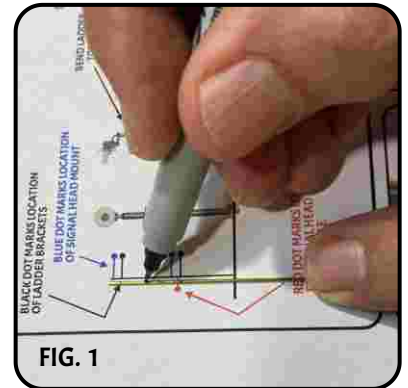

FIG. 1
LAY THE BRASS MAST/TUBE DIRECTLY ON THE SUPPLIED DRAWINGS FOR USE AS A TEMPLATE AND MARK THE LOCATIONS OF EACH OF THE ASSEMBLY COMPONENTS (FIG. 1) INCLUDING THE LOCATION(S) FOR THE SIGNAL HEAD.